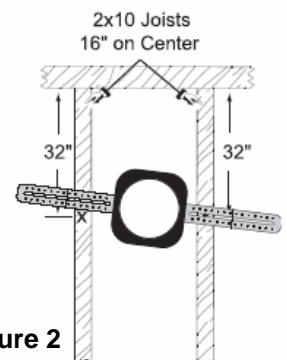

Figure 2
- B. Attach one end of the bracket with a drywall screw through the adjustment channel into the measurement mark. **(See Figure 2)**